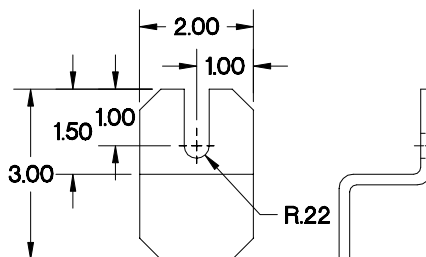
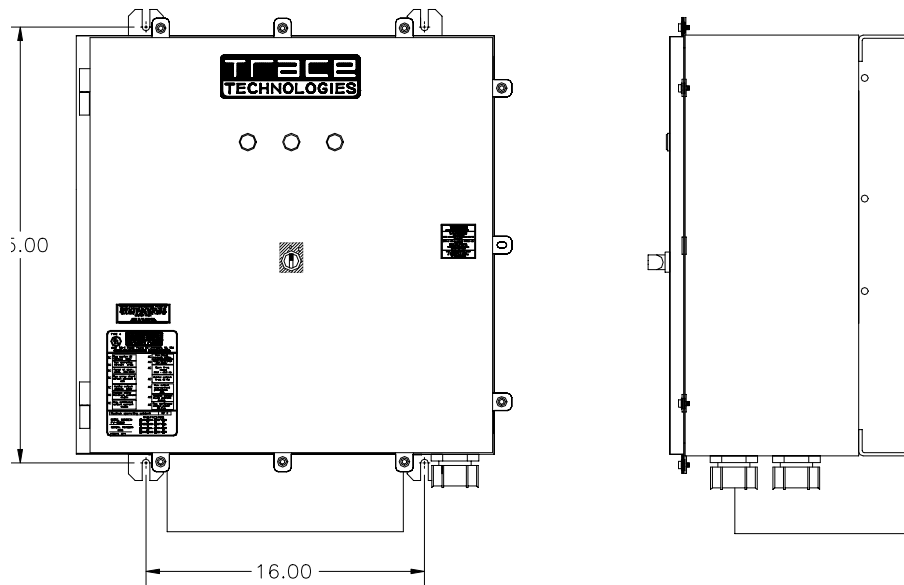

Figure 3-1
Figure 3-2
3. Place the PV-15208 bottom mounting ears, shown in **Figure 3-1** and **Figure 3-2** onto installed lag bolts. (See following page.)